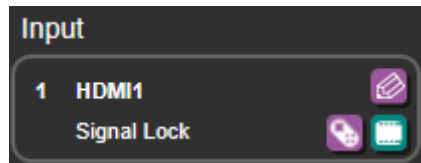

Figure 16: Switching Page – Input button
3. Click the Switch Video icon  from a specific input button (1 to 4) (Figure 16).
2. Click the Edit Input icon  from an Input button (Figure 16).
- Name (in Figure 16, the name is HDMI1).
4. Click the Remote device settings icon  from an Input button (Figure 16).